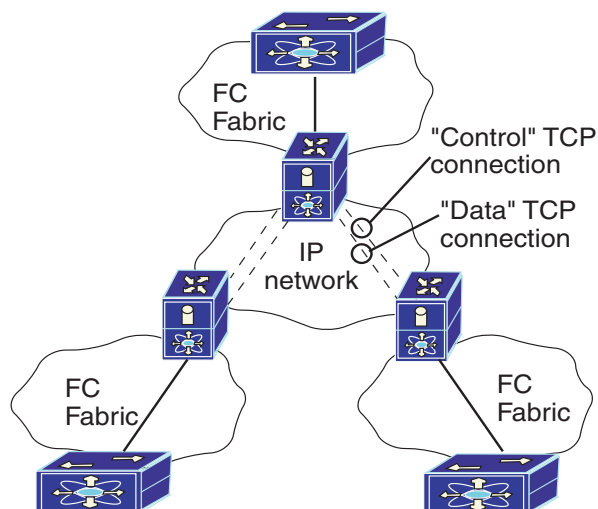

Figure 61: FCIP scenarios
- FCIP-FCIP transports Fibre Channel frames transparently over an IP network between two C-Series MDS 9000 Family switches. Figure 61 depicts the FCIP scenarios in which the IPS module is used.